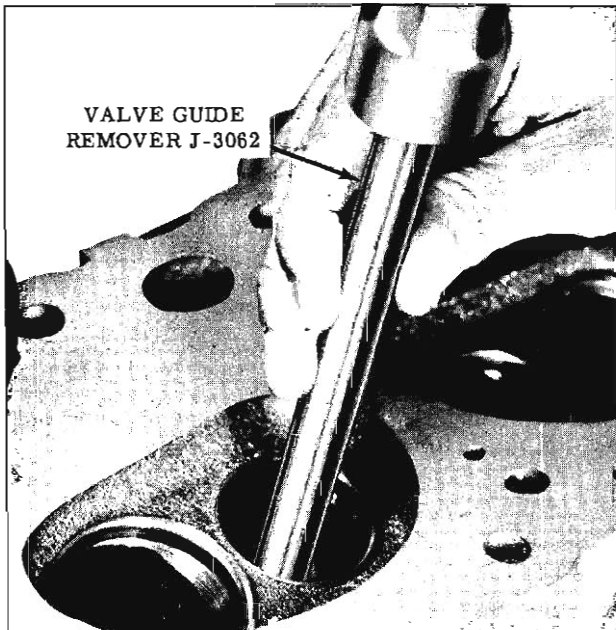

Fig. 3-9 Removing Valve Guide
7. If necessary to remove valve guides, support head on wood blocks then drive out with Valve Guide Remover Tool J-3062 (Fig. 3-9)